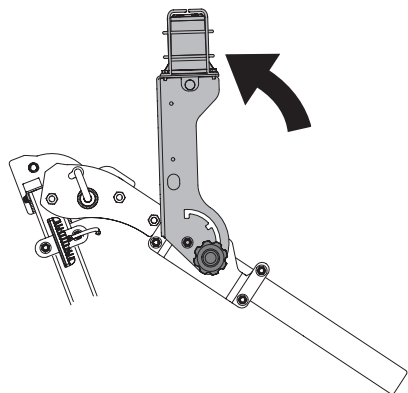
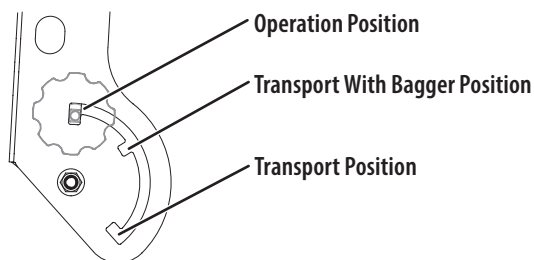

Figure 26
Figure 27
3. Rotate the assembly to face the beacon light straight upward (Figure 26).
NOTE: In Figure 26 the ROPS is shown in Transport Position. Take note of the settings used for the different beacon light positions (Figure 27).